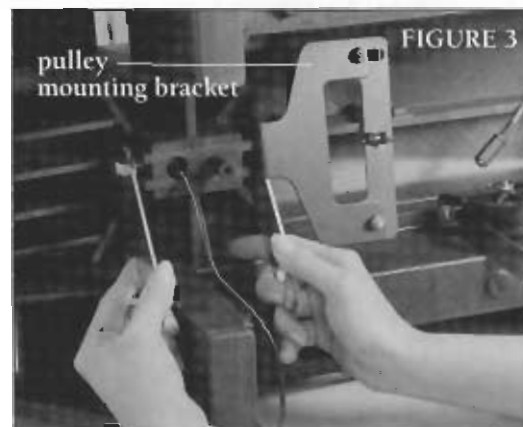

FIGURE 3
5. Disconnect the pulley mounting bracket from the base with the wrenches provided (Figure 3).